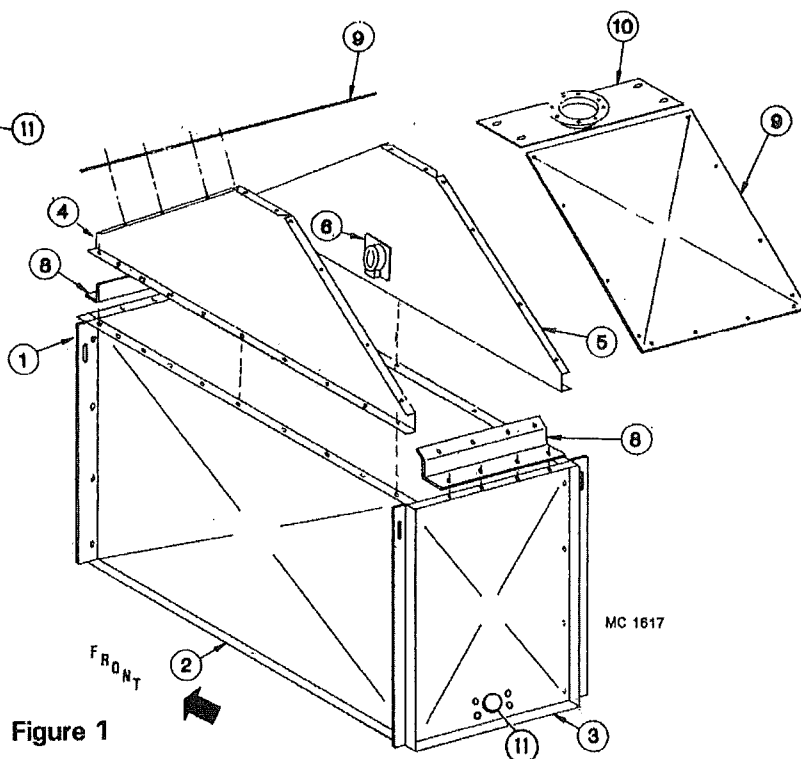

Figure 1
Assembly of 320EM Wet Grain Hopper and Level Switch (See Figure 1)
1. Bolt the Hopper Sides and End Panels together with ⅜-16 x ¾" (9.5 x 19mm) capscrews and flanged whiz locknuts (#0018210 and 0008168). Be sure to place (1) #1293412 Lifting Bar at each end of the Hopper Sides so that there will be (1) bar at each corner of the Hopper. See Figure 1.
2. Bolt the Hopper Extensions #1244777 LH and #1292849 RH to the Hopper Sides with ⅜-16 x ¾" (9.5 x 19mm) washer head hex bolts and whiz locknuts. See Figure 1.
4. Bolt the (2) Hopper Extension Top Panels #1244775 to the sloping flanges of the hopper extensions with the same bolts and nuts used in #2.
2. Attach cables to the lift bars on the hopper. Use spreader bars between the cables and lift the hopper onto the top of the peak assembly, see Figure 1.